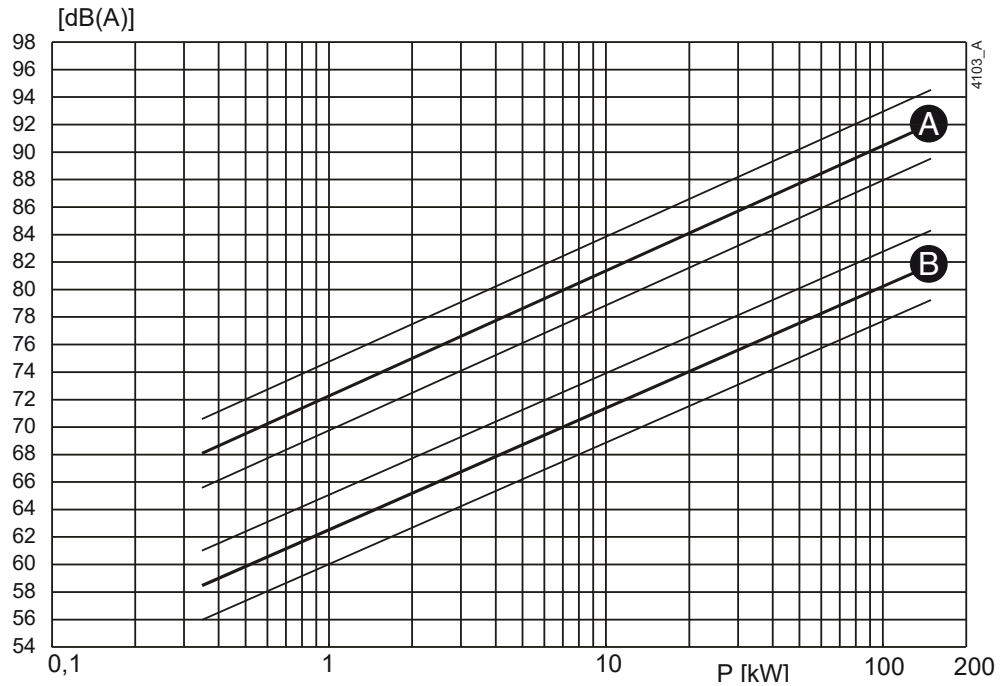
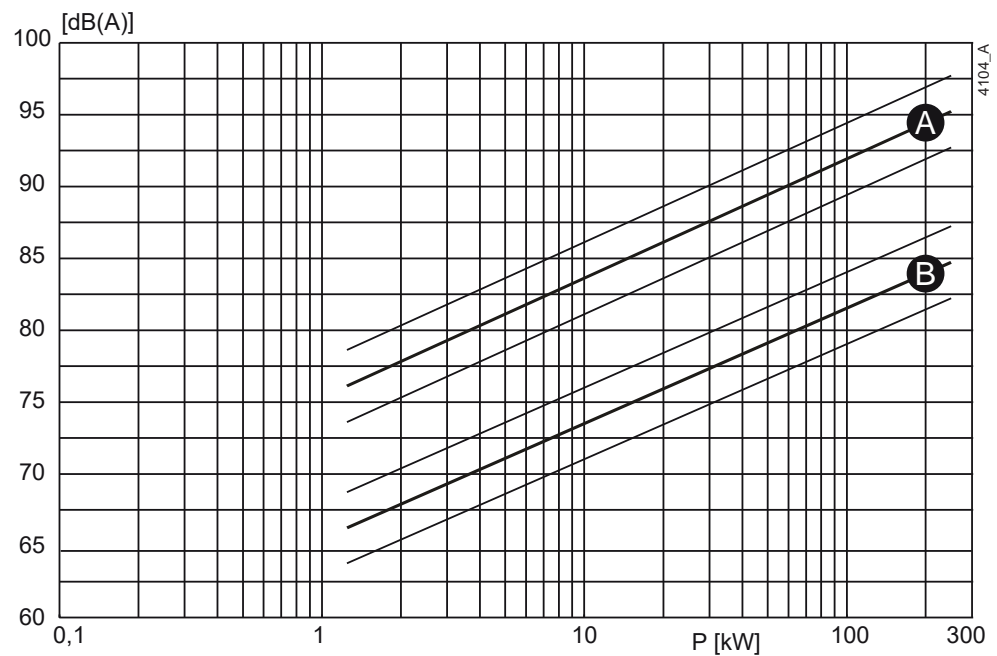

Figure 40: Noise level as function of pump power [kW] at 1450 min⁻¹
Figure 41: Noise level as function of pump power [kW] at 2900 min⁻¹
- 1 Determine the noise level (L1) of the pump, see figure 40 or figure 41.